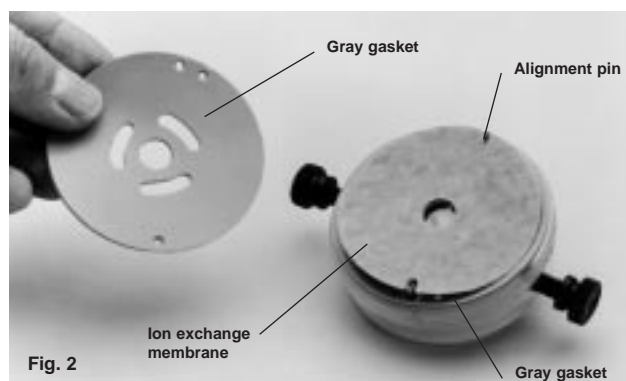

Fig. 2
3. Place the proper ion exchange membrane on each gasket. Align the notches in the membrane around the pins and place a second gasket on top of the membrane. (Figure 2). There is only one way to correctly align this membrane.